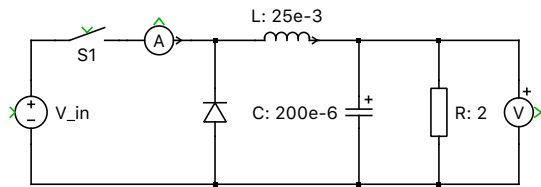

Figure 13: Electrical part of the buck converter
- 3 Build the rest of the electrical part of the buck converter, as shown in Fig. 13.
- 1 After completing the circuit shown in Fig. 13, select all the components (either by clicking an empty space in the upper left corner of the schematic and dragging a frame to the lower right corner, or by using the keyboard shortcut **Ctrl-A**).